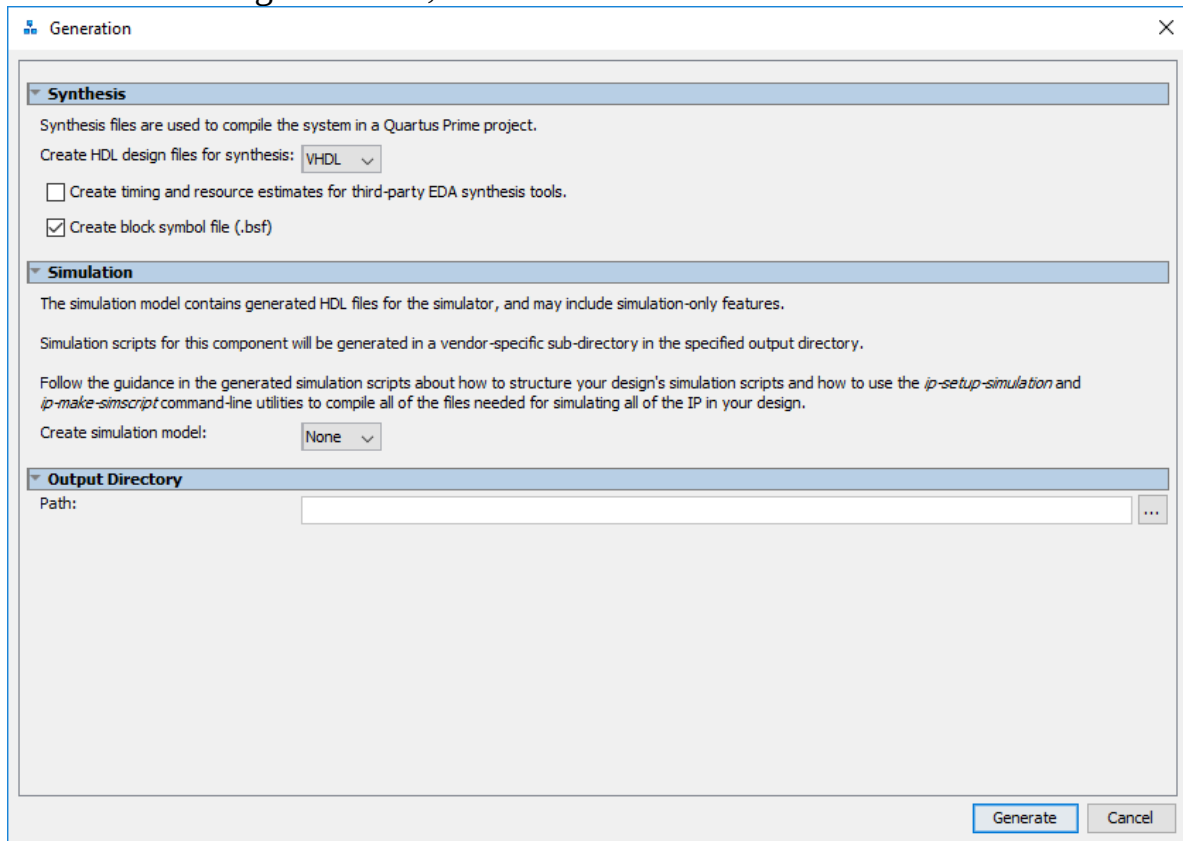

Figure 32 : QSYS Generate File
7. Click **Generate HDL**. The windows in the Figure 32 will appear. Select the format